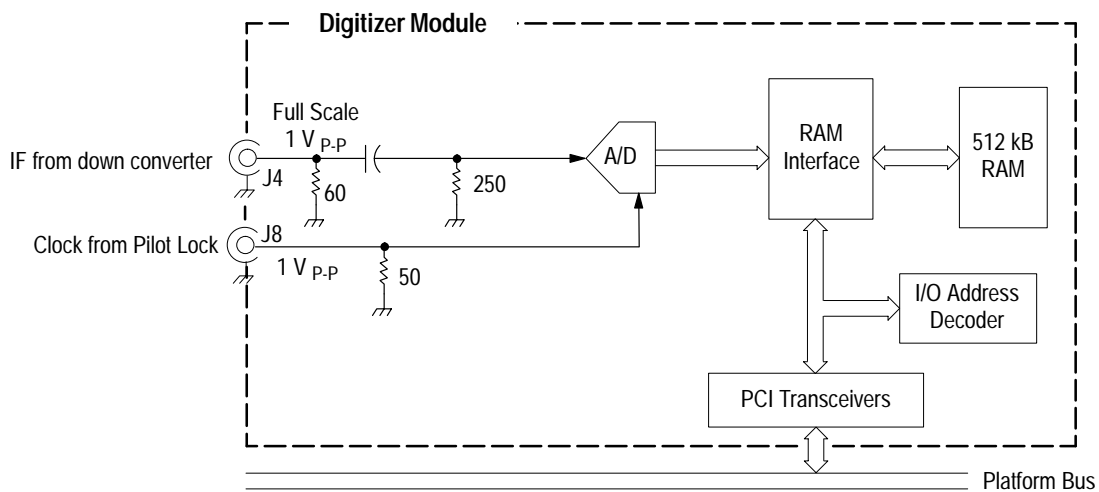

Figure 3–5: Digitizer module block diagram
The digitizer module contains the A/D converter and local digitier RAM. Figure 3–5 shows a simplified block diagram of the digitizer module. The input to the module presents a nominal 50 Ω input to the IF signal from the down converter. A capacitor couples the 1 VP-P full scale IF signal to the input of the A/D converter. A 1 VP-P digitizer clock at 43.05 MHz, obtained from the pilot lock module, clocks the A/D converter. The 512 kB RAM stores the digitized signal until it is accessed by the system controller for processing. Communication of the data and addressing of the RAM is handled through the PCI interface.
**Synthesizer** The synthesizer module provides the Local Oscillator (LO) frequency to the down converter. A block diagram of the synthesizer module is shown in Figure 3–6.